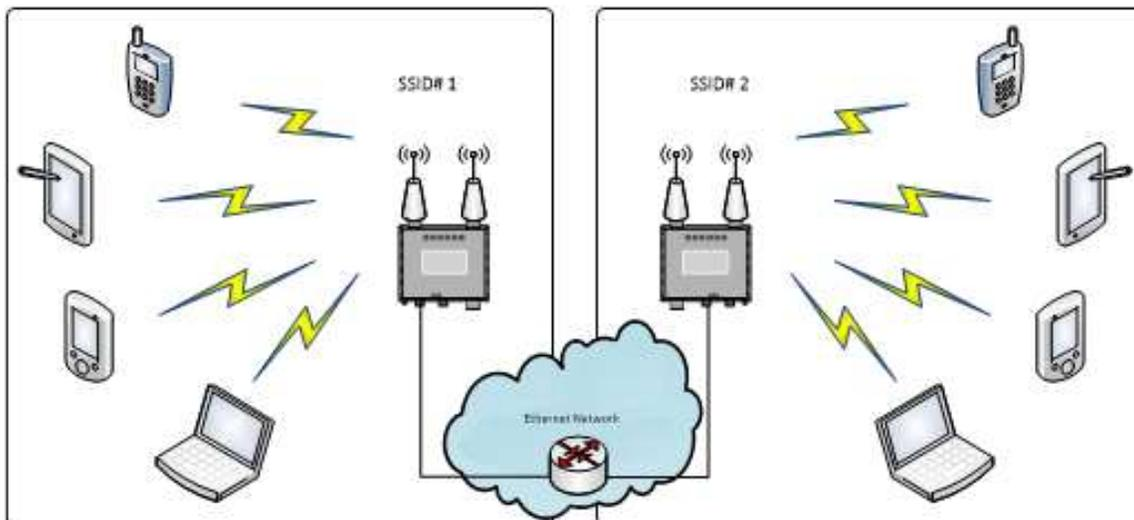

Figure 9: Multiple APs Connected to an Existing Ethernet Network
- a) Multiple APs (Figure 9) can be connected to an existing Ethernet network to bridge between the wired and wireless environments. Each AP can operate independently of the other APs on the LAN. Multiple APs can coexist as separate individual networks at the same site with a different network identifier (ID), SSID.